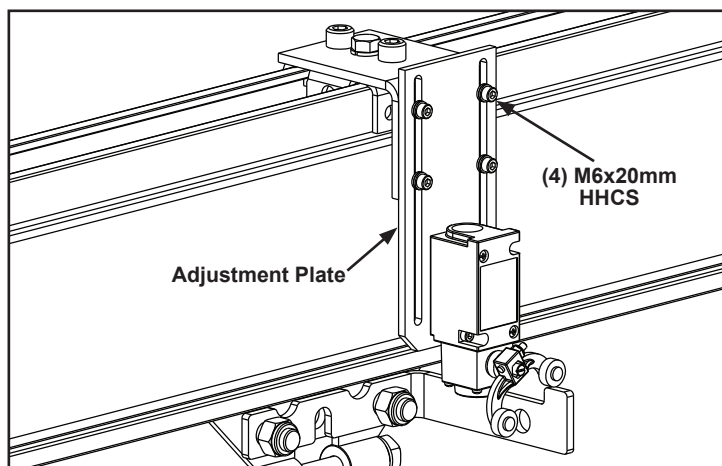

Figure 3-137
- Step 4. Align roller lever and tripper flag to ensure lever is activated when making contact with tripper flag. Adjust limit switch by loosening the four (4) M6x20mm SHCS bolts and move the adjustment plate either up or down. A minimum of 1/4 in. (6.3mm) between the bottom of the limit switch and tripper flag. Tighten the four (4) M6x20mm SHCS bolts. Tighten roller lever bolt on limit switch pin. See Figures 3-137 and 3-138.